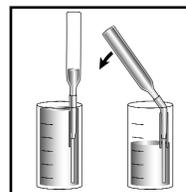

Figure 5
7. Place the VACUette between the vertical tip guides on the inside of the diluter snapper cup. Snap the ampoule tip. The ampoule will fill leaving a bubble for mixing (fig. 5).